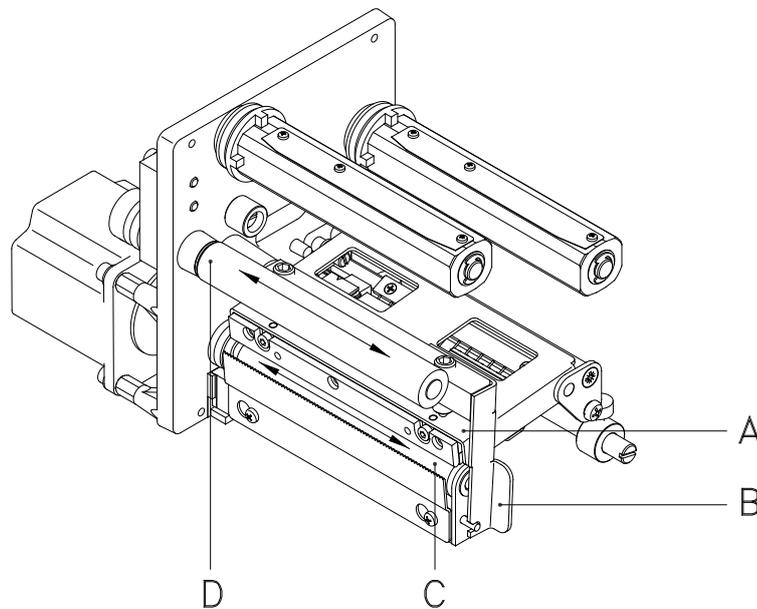

Figure 16
2. Turn red lever (B, in Figure 16) counter clockwise to lift up the printhead.